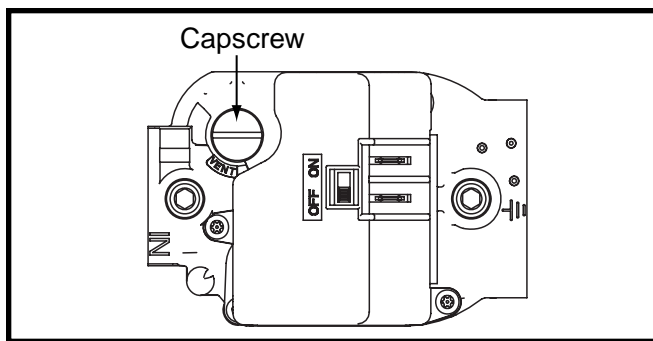

Figure 17. Regulator Capscrew
7. Remove the regulator capscrew (Figure 17, page 23) from the INLET side of the regulator.